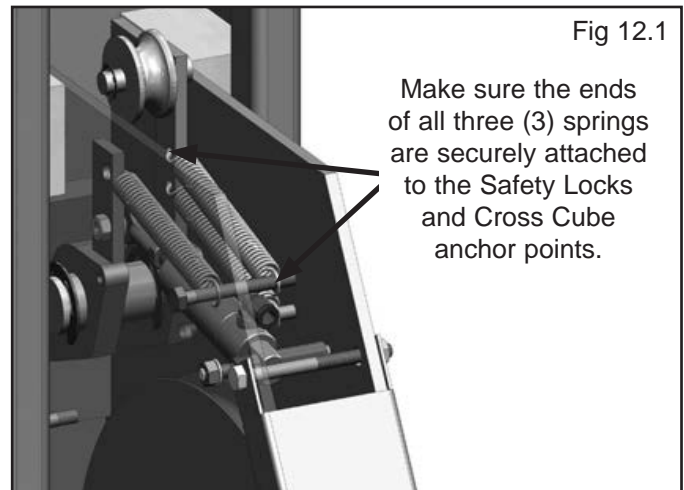

Fig 12.1
1. Install the unattached end of the ALL SAFETY LOCK SPRINGS as shown. Make sure the spring ends are secure at both ends. **DO NOT ATTEMPT TO RAISE THE LIFT UNTIL THE SLACK SAFETY SPRINGS ARE ATTACHED AND THE ROLLERS ARE PULLED CLEAR FROM THE LADDER.** (See Fig. 12.1)